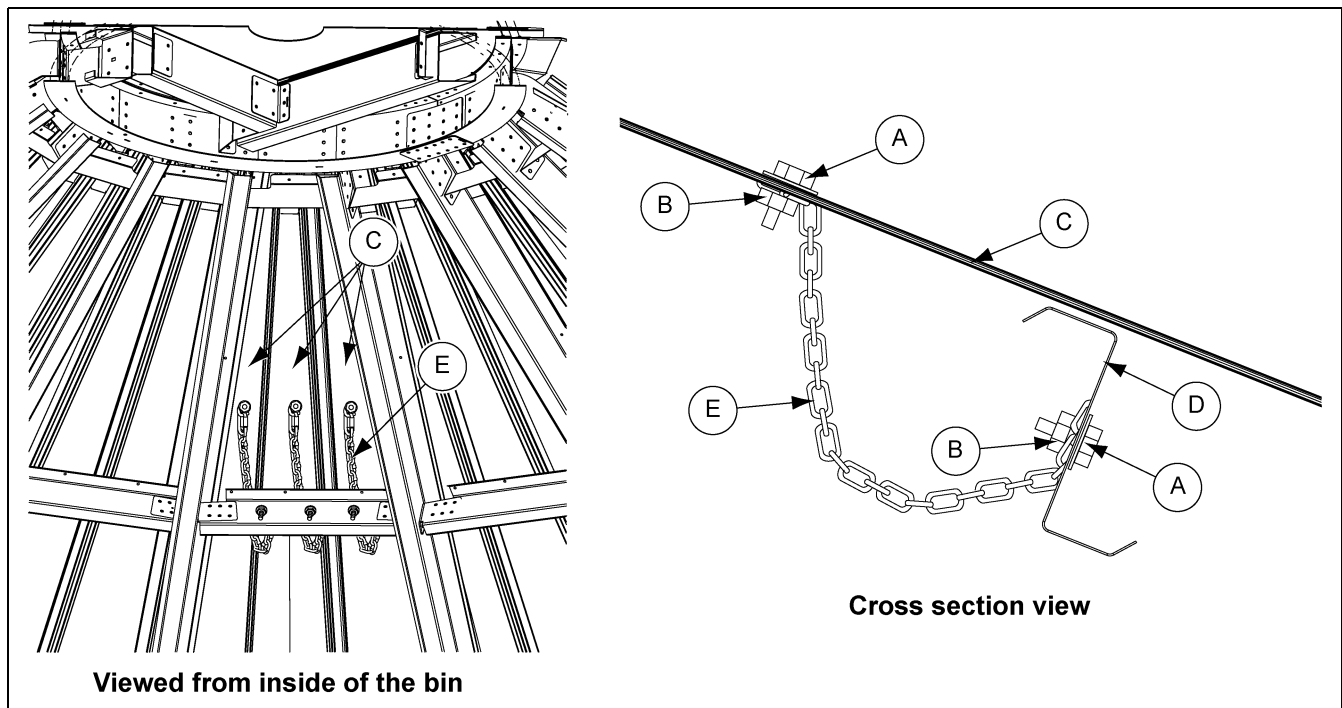

Figure 6 Restraint Chain Installation
1. Field drill three (3) 3/8" holes at regular intervals in the front face of the top purlin.
2. Field drill a 3/16" hole in each roof vent/explosion panel (C) on top at some distance way from purlin (D).
3. Cut the chain link (E) to the required length.
4. Place a 5/16" bolt (A) with a washer to the hole in the purlin/panel clip and insert one end of the chain link with the washer on the other side to the bolt. Secure and tighten with a 5/16" nut (B).
5. Place a 5/16" bolt (A) bolt with a washer to the hole in the roof vent/explosion panel (C) and insert the other end of the chain link with washer to the bolt under the panel. Secure and tighten with a 5/16" nut (B). (See Figure 6.)